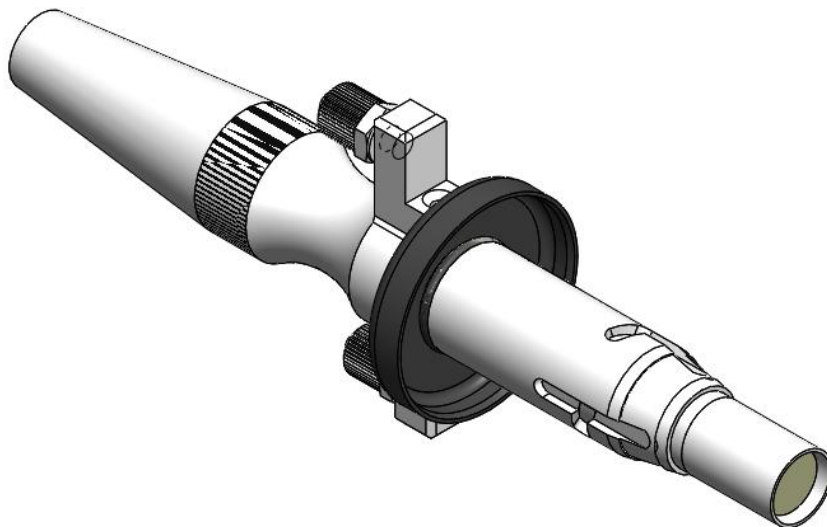

Figure 1.6
- ② Cover the dust-proof cover which is in the white accessory box, onto the fiber laser tip, as shown in Figure 1.6: